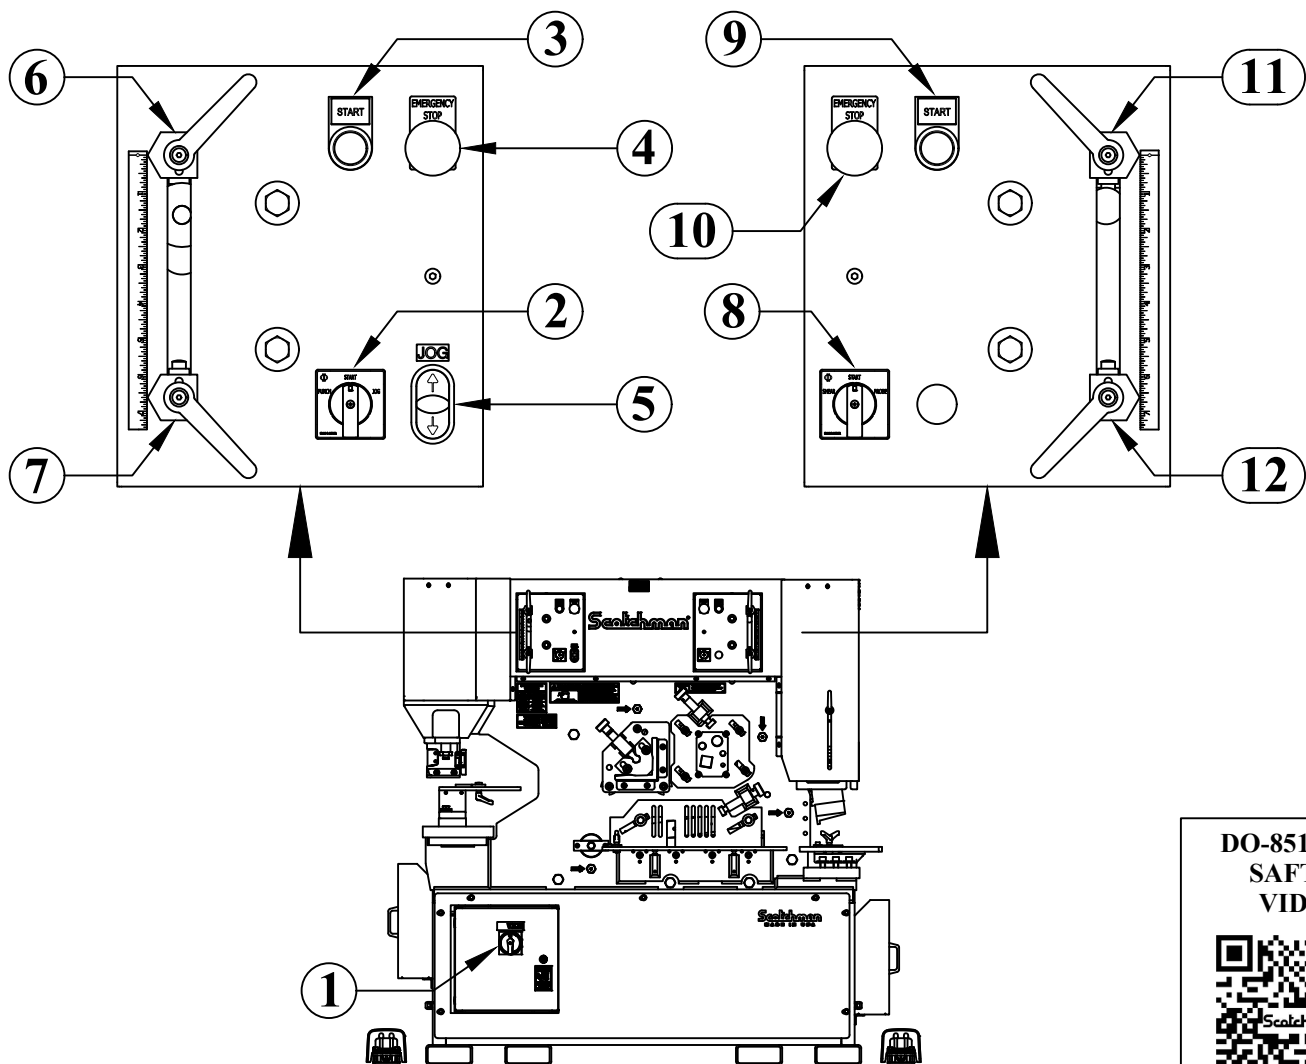

FIGURE 5
- ➔ **SINCE THIS MACHINE CAN BE OPERATED BY TWO PEOPLE AT THE SAME TIME, IT IS IMPORTANT THAT THE OPERATORS BE VERY FAMILIAR WITH ALL OF THE CONTROL PANEL FUNCTION AND HOW THEY AFFECT THE OPERATION OF THE MACHINE. REFER TO FIGURE 5 BELOW.**